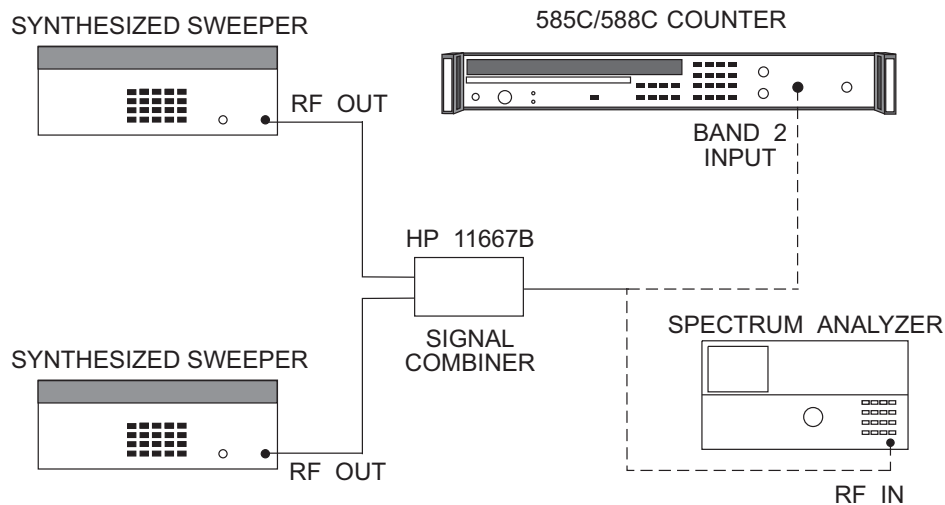

Figure 6-6. Band 2 Amplitude Discrimination Test Setup
1. Connect equipment as shown in Figure 6-6.